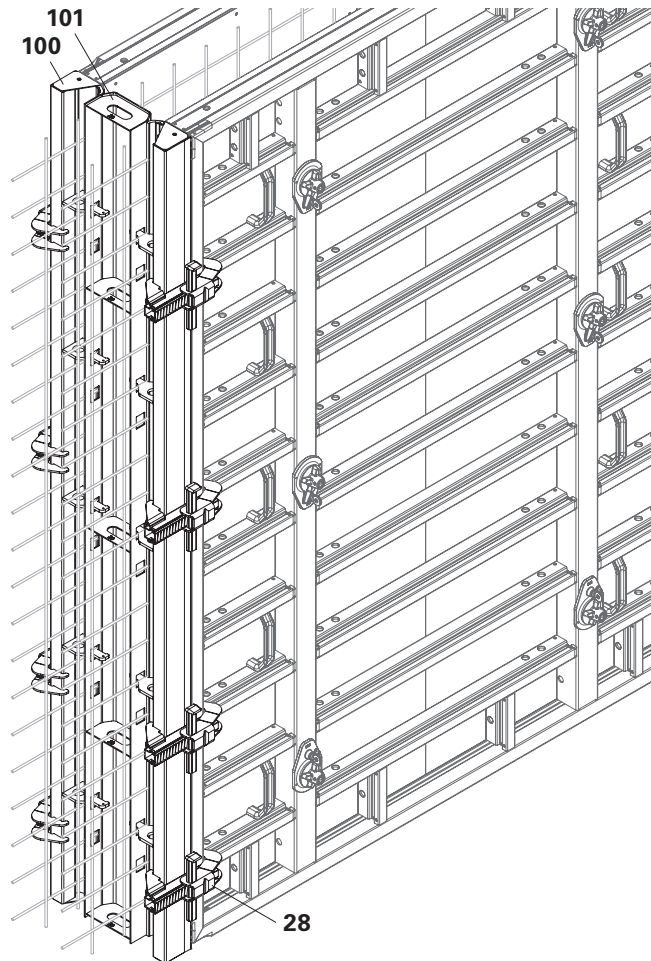

Fig. D9.05
2. Fix Stop. Panel TRIO AT (100) to the primary formwork by means of the Alignment Coupler BFD (28).
4. Position Stop. Panel TRIO MT (101).
6. Fix Stop. Panel TRIO AT (100) to the closing formwork by means of the Alignment Coupler BFD (28).
7. Position the closing formwork and in doing so insert Stop. Panel TRIO AT (100) into Stop. Panel TRIO MT (101). (Fig. D9.05)